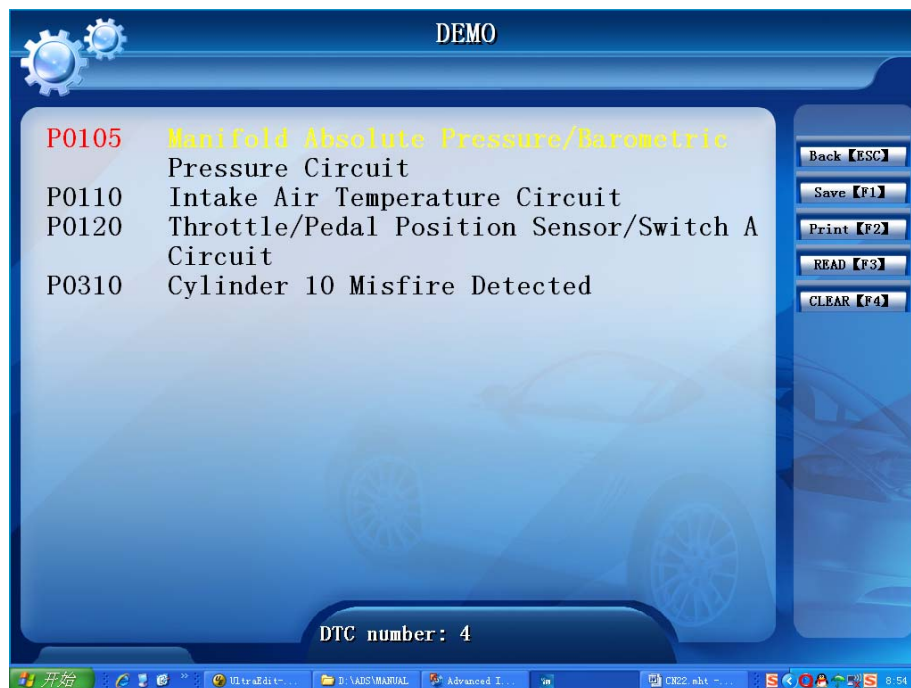

Figure-13
13. If you choose “Read trouble code”, it will appear content of trouble code, as shown in figure-13